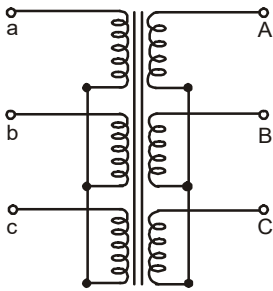
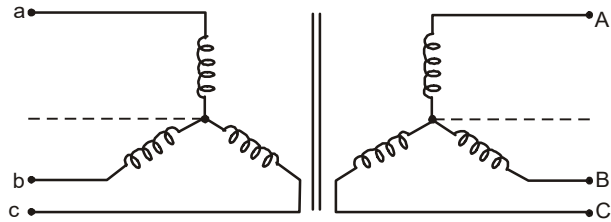

Fig. 3.26: Windings connected in star-star
Fig. 3.27: Y-Y Connections
- (i) **Star-Star connected 3-phase transformers :** Bunches of three windings of 3-phase transformer connected in Star (Y) on both primary and secondary sides are shown in fig.3.26 and fig. 3.27. If the ratio of transformation of each transformer is K , the same ratio will exist between the line voltages on the primary and secondary sides. This connection works satisfactorily only when load is balanced.